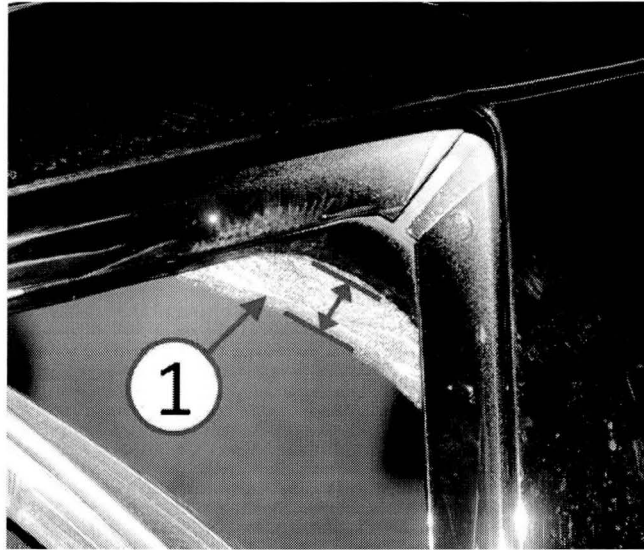

Fig. 4 Foam Piece Overlap
5. As viewed from the outside of the door, the foam piece should extend beyond the corner by approximately 13 mm (0.5 In.) (Fig. 4).